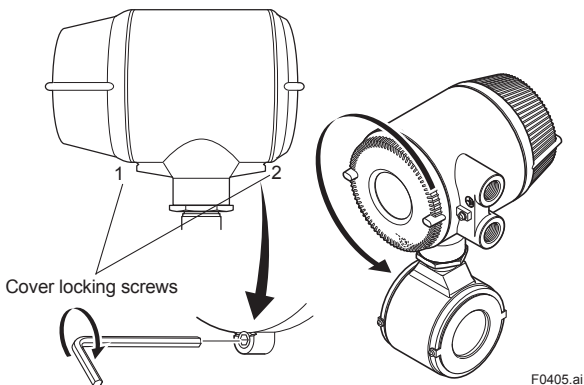

Figure 4.1.5 Removing the Terminal Box Cover for Integral Flowmeter
- The terminal box cover is locked by the special screw. In case of opening the terminal box cover, use the hexagonal wrench attached. For handling the locking screw, refer to Figure 4.1.5.